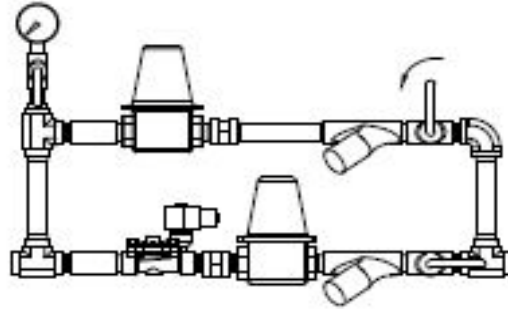

Figure 4-1 Water Bypass Valves
1. As shown in Figure 4-1, open the water bypass valves (2) in the cooling water supply piping or the emergency cooling supply.